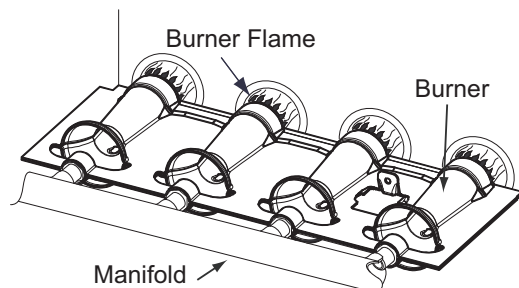

Fig. 60 - Burner Flame
8. Reverse items 6 through 1 for reassembly.
11. Check furnace operation through 2 complete heat operating cycles. Look at burners. Burner flames should be clear blue, almost transparent. (See Fig. 60.)